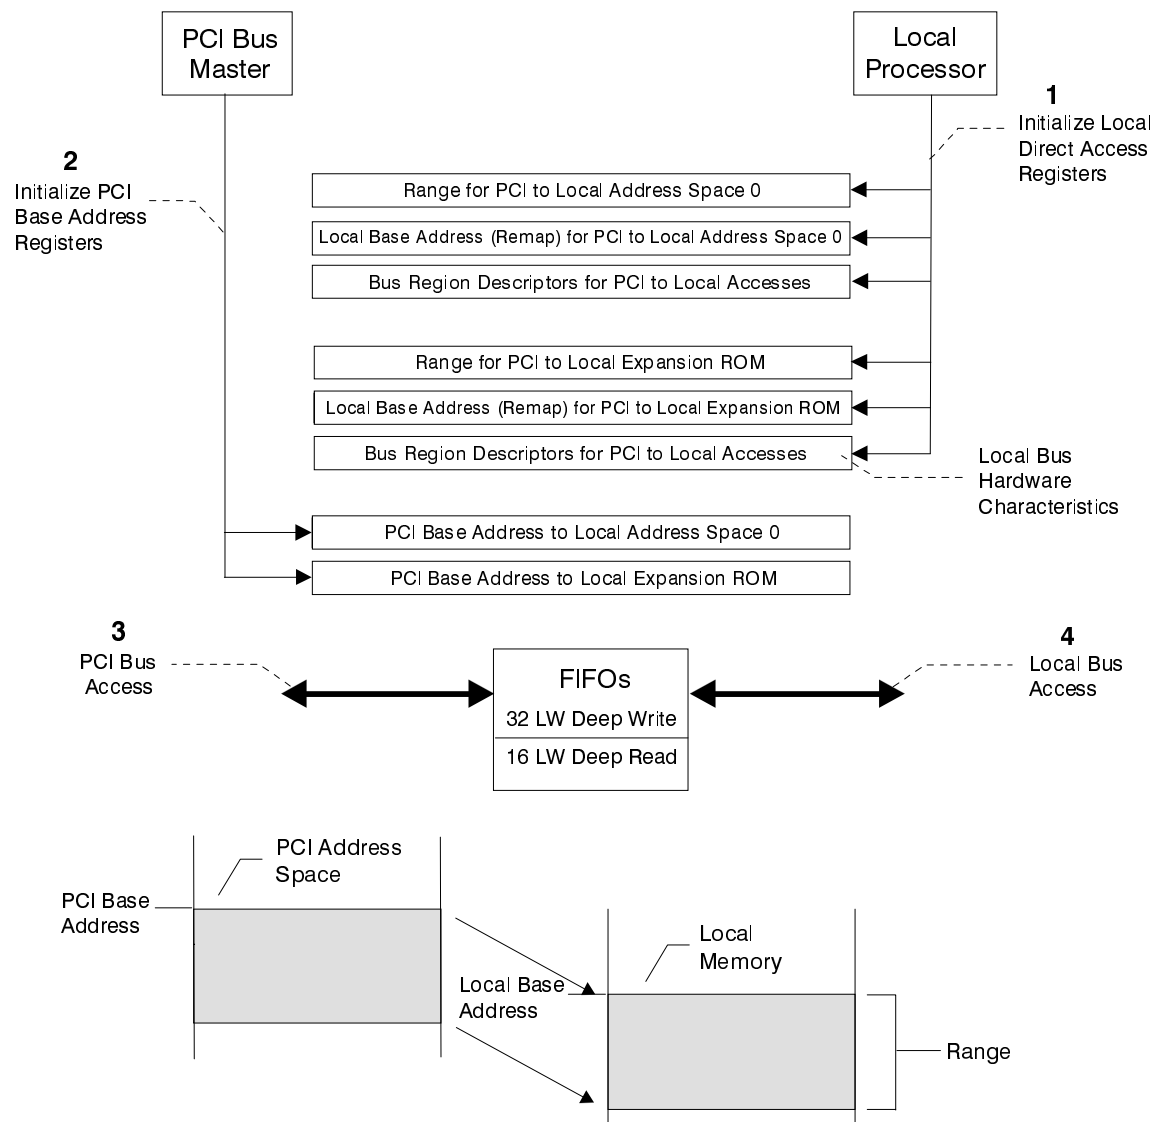

Figure 3-13. Direct Slave Access of Local Bus
A fourth register, Bus Region Descriptor Register for PCI to local accesses, defines the local bus characteristics for both regions. (Refer to Figure 3-13.)
PCI reset software determines how much address space is required by writing a value of all ones (1) to a PCI Base Address register and then reading back the value. PCI 9080 return zeroes in “don’t care” address bits, effectively specifying the address space required. The PCI software then maps the Local Address space into the PCI Address space by programming the PCI Base Address register. (Refer to Figure 3-13.)